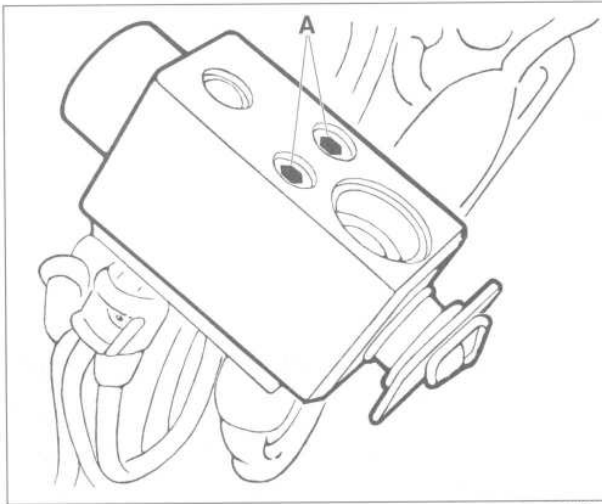

Fig. 28. Expansion valve mounting screws (A).
- Remove screws from top of expansion valve and remove expansion valve. See Fig. 28.